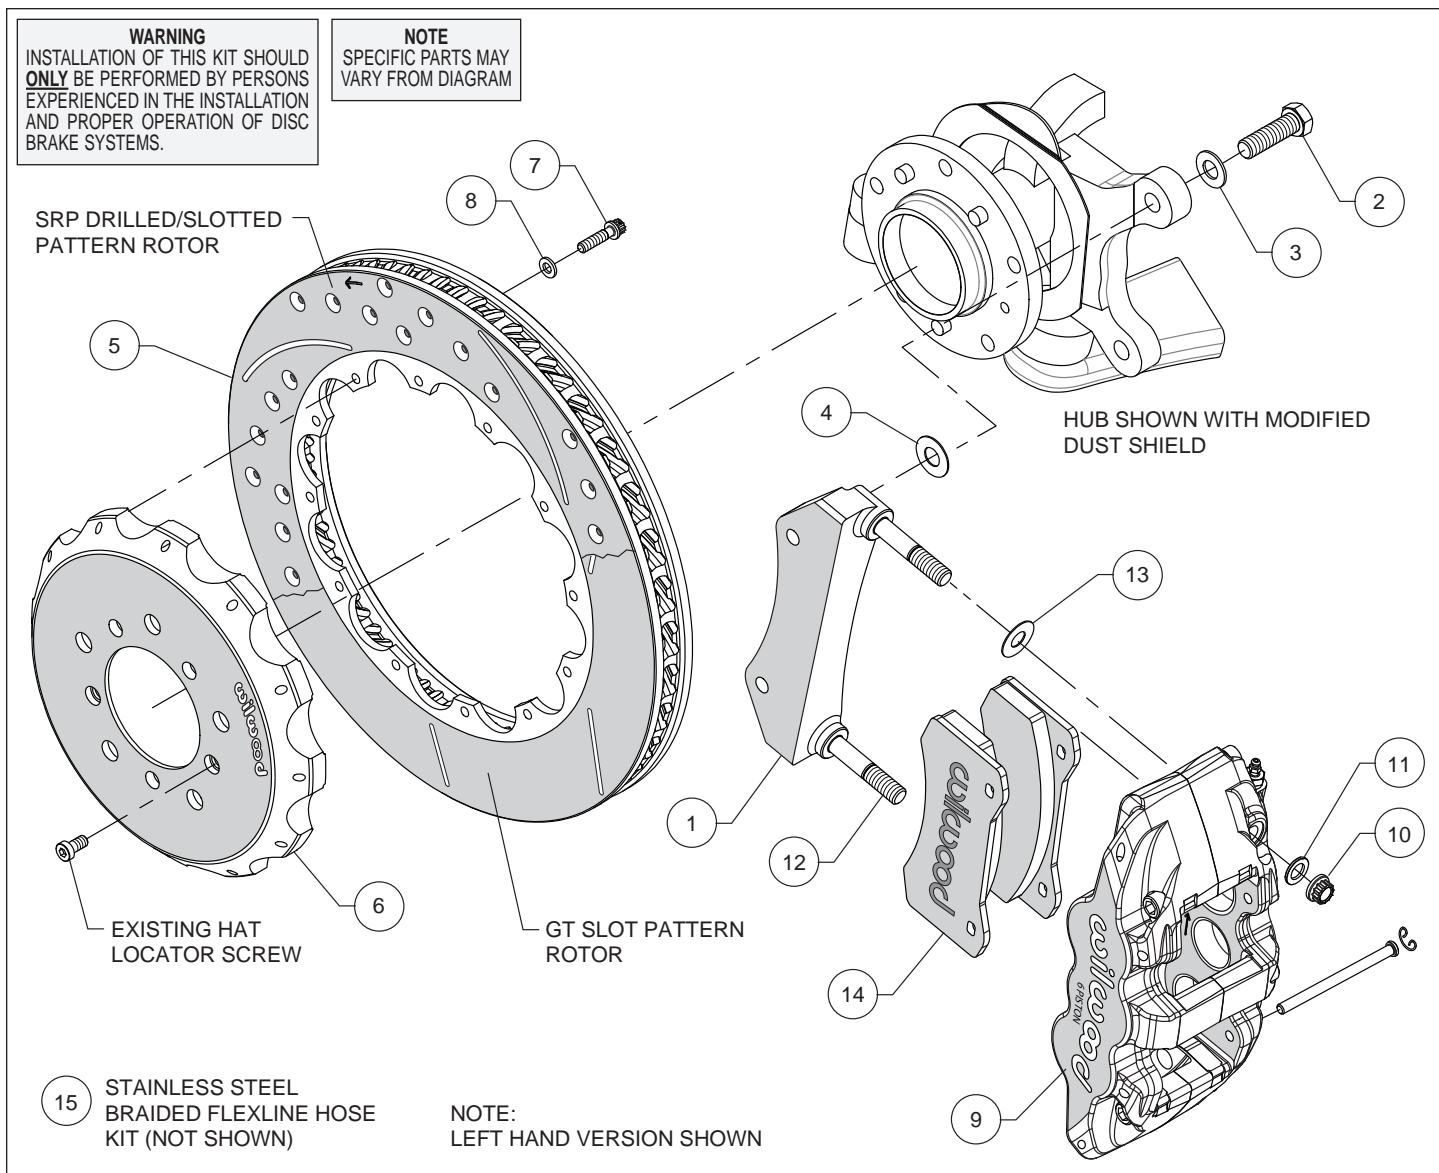
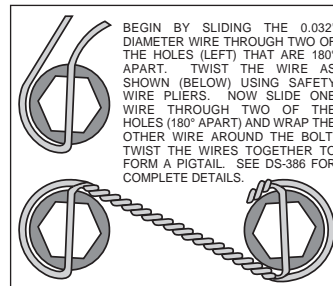

Figure 1. Typical Installation Configuration
Figure 3. Safety Wire Diagram
Assembly Instructions (numbers in parenthesis refer to the parts list and Figure 1 on the preceding pages):
- The caliper mount bracket (1) should initially be installed with clean, dry threads on the mounting bolts. Orient the bracket as shown in Figure 1 and Photo 2, and install using bolts (2) and washers (3). Initially place one .033 thick shim (4) on each bolt between the bracket and upright, Figure 1. Temporarily tighten the mounting bolts. **NOTE:** *The bracket must fit squarely against the mounting points on the upright.* Inspect for interference from casting irregularities, machining ridges, burrs, etc. Later, after the caliper alignment has been checked, the mount bolts will be secured using red *Loctite*® 271.
- Orient the rotor (5) and the hat (6) as shown in Figure 1 and Photo 3. Attach rotor to hat using bolts (7) and washers (8). Using an alternating sequence, apply red *Loctite*® 271 to the threads, and torque to 155 **in-lbs**. For an added measure of security, the bolts may be safety wired using standard 0.032 inch diameter stainless steel safety wire as shown in Figure 3. Please refer to Wilwood's data sheet DS-386 (available at www.wilwood.com/Pdf/DataSheets/ds386.pdf) for complete safety wire installation instructions.
- NOTE:** *This kit contains distinct right and left hand calipers that must be mounted in a specific direction, as described below.* Lubricate the caliper mounting studs (12) with lightweight oil. Initially place one .030" thick shim (13) on each stud between the caliper and the bracket, as shown in Figure 1 and Photo 5. Mount the caliper (9) onto the bracket (1) using lock nuts (10) and washers (11), Figure 1. Ensure that the caliper is mounted so the largest pistons are at the rotor exit end of the caliper, in relation to the direction of rotor rotation. Temporarily tighten the lock nuts and view the rotor through the top opening of the caliper. The rotor should be centered in the caliper, Photo 6. If not, adjust by adding or subtracting shims (4) between the bracket and the upright. Always use the same amount of shims on each of the two mounting bolts. Once the caliper alignment is correct, remove the bracket mounting bolts (2) one at a time, apply red *Loctite*® 271 to the threads, and torque to 60 ft-lbs.
- Remove the caliper (9) then remove the two pad retaining pins by carefully popping out the pin retaining clips and sliding out the pins. Insert the brake pads (14) into the caliper from the bottom,
Figure 1 and Photo 7. With the friction material facing the rotor, secure the brake pads in place with the pad retaining pins and clips, Photo 8. Reinstall the caliper onto the caliper mounting bracket and temporarily tighten the lock nuts (10). Check that the top of the brake pad is flush with the outside diameter of the rotor, Photo 9. If not, adjust by adding or subtracting shims (13) between the caliper and the bracket. After the caliper pad height is set, torque the caliper lock nuts (10) to 47 ft-lb.